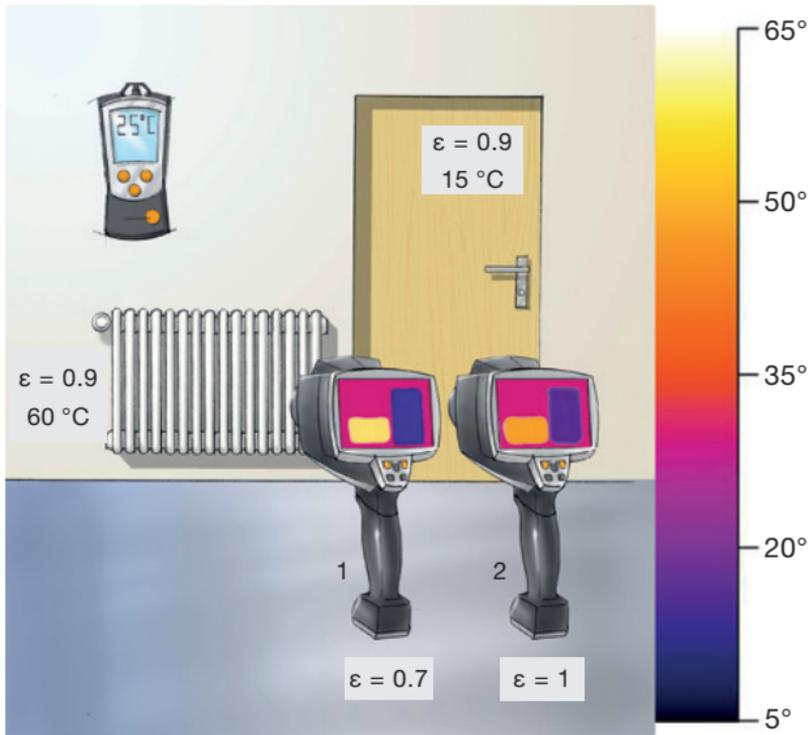

Figure 1.2: Effects of an incorrect emissivity setting on the temperature measurement
1. Where the temperatures of the measuring object are higher than the ambient temperature (cf. heater in Fig. 1.2, 11):
2. Where the temperatures of the measuring object are lower than the ambient temperature (cf. doors in Fig. 1.2, p.11):